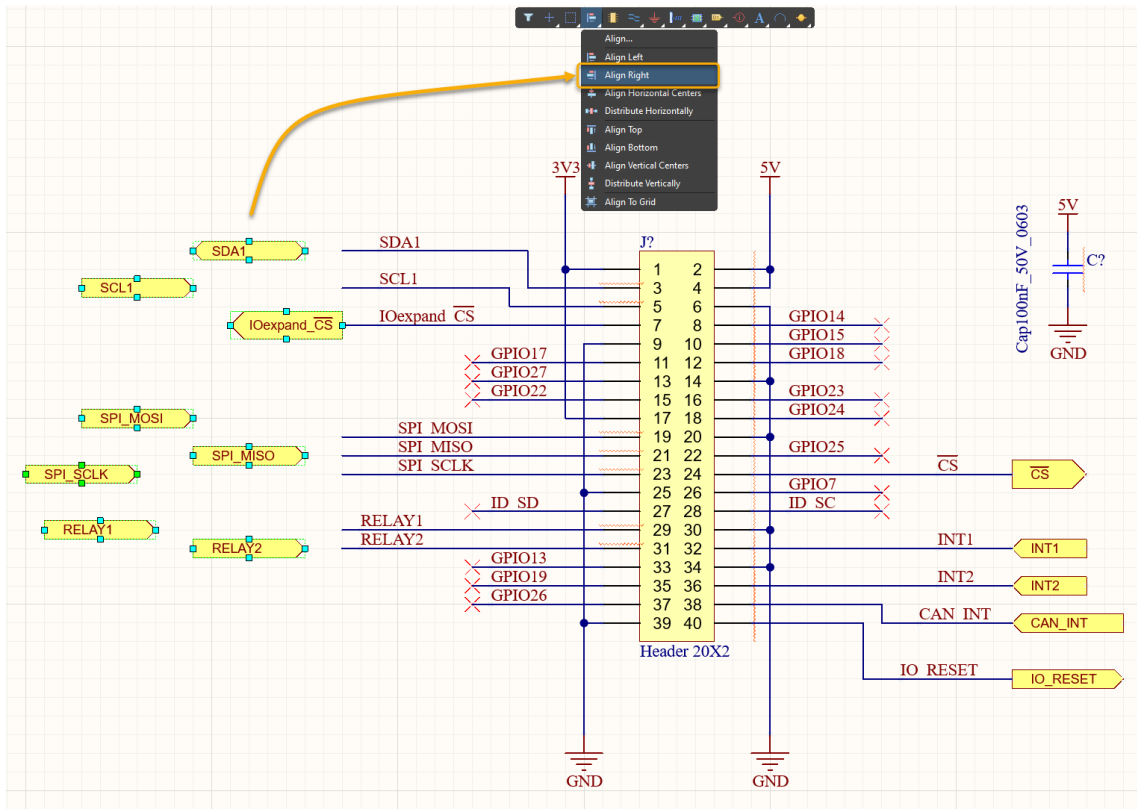

Figure 1. Align for unconnected Ports
10. Go to **Edit » Align » Align Right** or use the **Active Bar** to align the ports, Figure 1.